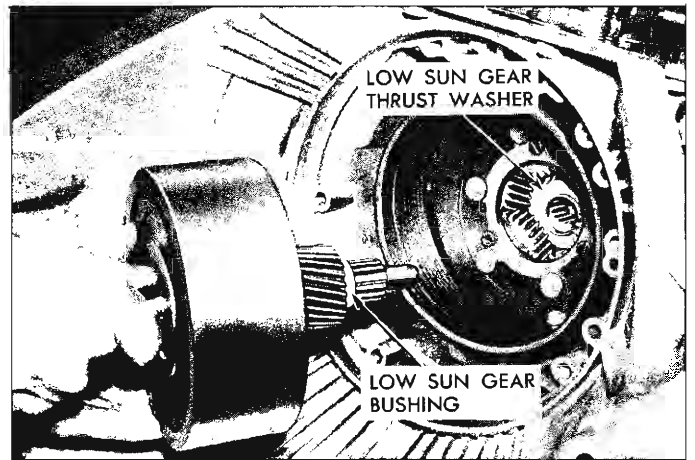

Fig. 12—Removing Clutch Drum and Input Shaft
13. Release the tension on the low band adjustment, then, with transmission horizontal, grasp the transmission input shaft and carefully work it and the clutch drum assembly out of the case (fig. 12). Use care so as not to lose the low sun gear (splined) bushing from the input shaft. The low sun gear thrust washer will probably remain in the planet carrier.